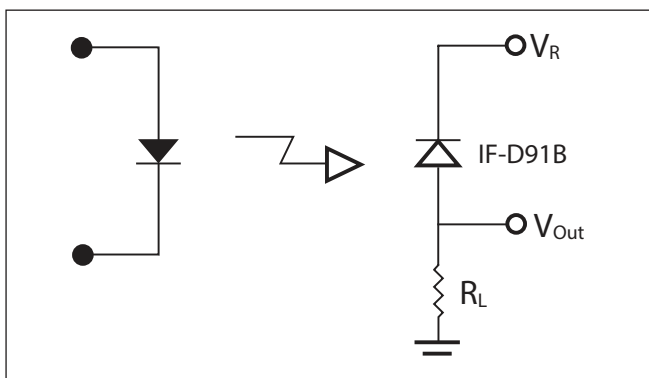
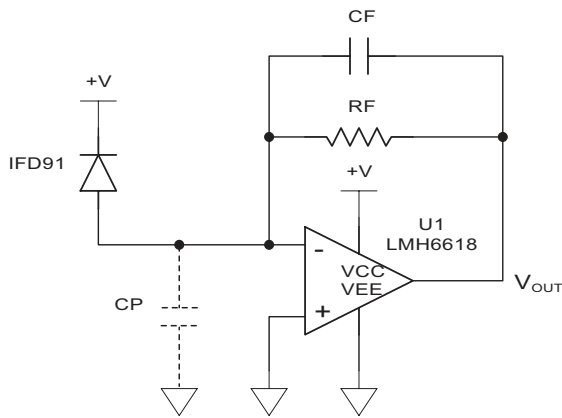

FIGURE 2. Circuit diagram for measuring rise and fall times.
FIGURE 5. Transimpedance amplifier
3. We could change the circuit from the basic resistor (Figure 2) to the transimpedance amplifier (Figure 5).
The circuit shown in Figure 2 can be used for low frequency applications. The output is given by $V_{OUT} = P_{IN} \times R \times R_L$. Where P_{IN} is the power into the IF-D91B and R is the responsivity at the wavelength used. The bandwidth is limited by the IF-D91B capacitance, the circuit capacitance and R_L ,
The circuit shown in Figure 5 can be used for higher frequency and higher gain applications. It uses an opamp configured as a transimpedance amplifier. This will convert the current output of the IF-D91B photodiode to a voltage. The output is inverted (output low with light input). The output is given by $V_{OUT} = -I_D \times R_F$. Where I_D is the current from the IF-D91B. Capacitor C_F may be needed for stability to cancel the total capacitance connected to the negative input of the opamp. This capacitance is the sum of the IF-D91B capacitance, the opamp input capacitance and any stray parallel capacitance (C_P) from the circuit board. $C_T = C_{IFD91} + C_{U1} + C_P$. For stability the value of C_F should be at least
Continuing with the previous example, the power into the IF-D91B was 30.2 uW and the detector current, I_D , was 12.1 uA. The LMH6618 Op-amp shown in Figure 5 has an input capacitance of 1.5 pF and a large signal gain bandwidth product of 15 MHz. For $V_{OUT} = 5$ Volts the value of R_F would be 412 kOhms. We will assume the stray board capacitance is 1 pF giving a total capacitance of $C_T = 5.5$ pF. Using the above equation for C_F gives a value of 0.38 pF. Using the equation for bandwidth yields $BW = 1.0$ MHz which is plenty for this application.